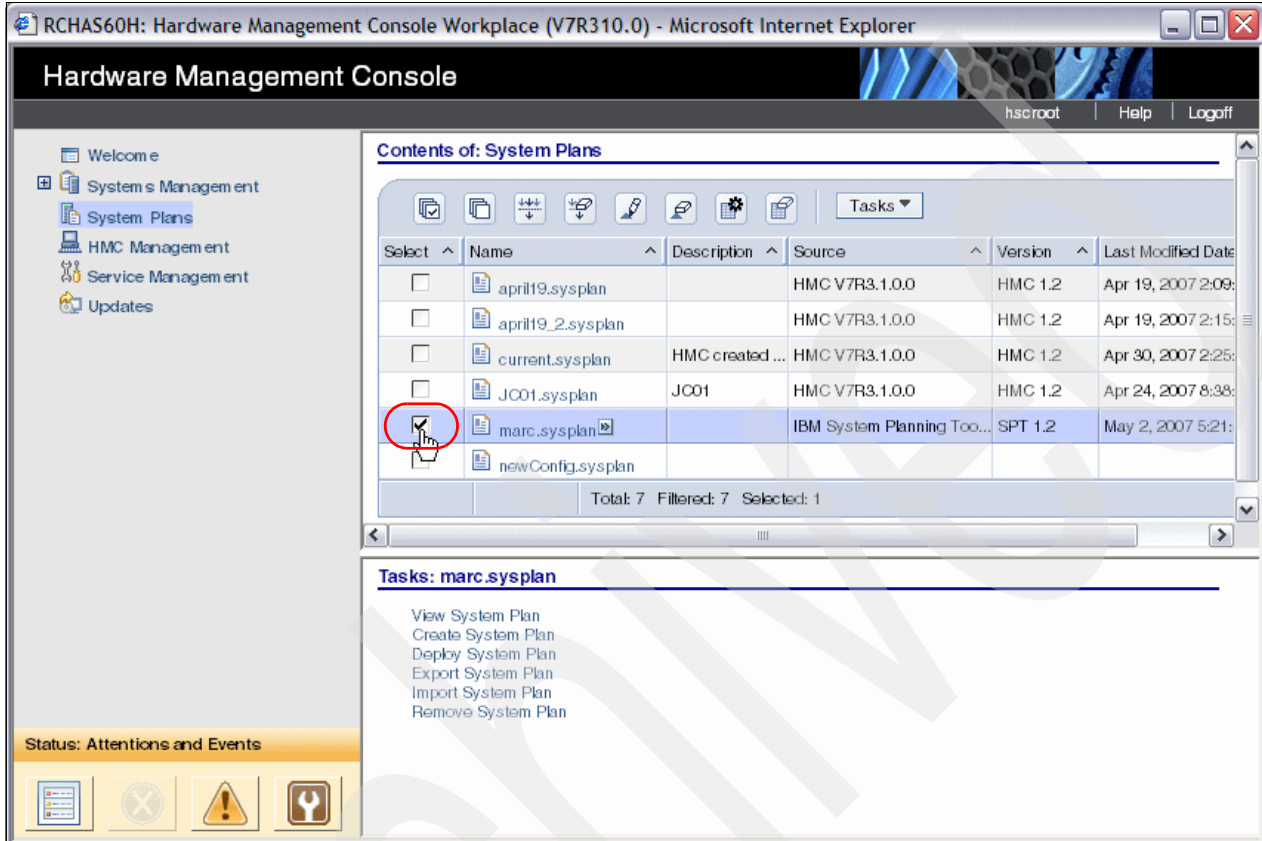

Figure 3-18 Select the system plan to deploy
1. On the list of the system plans, you first select the one that you want to deploy by clicking the check box to the left of the system plan, as shown in Figure 3-18. In our example, we select the marc.sysplan file.